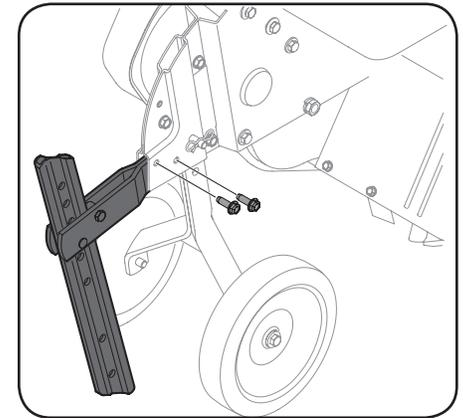

Figure 3-4
2. Remove the two screws from the bracket in the chain case. See Figure 3-4.
3. Insert the horizontal bracket into the chain case brackets and secure the depth stake assembly in place with the screws just removed in step 2. See Figure 3-4.